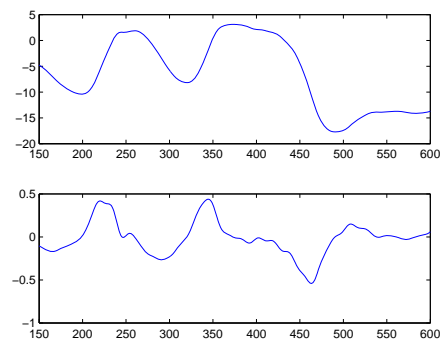
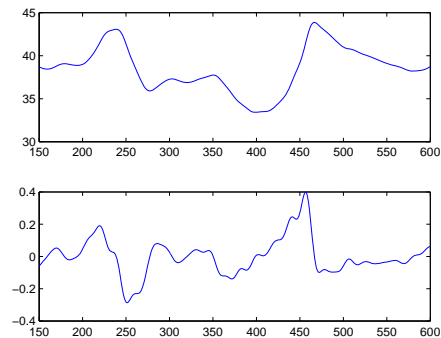

Figure 7: Vertical movement (upper panel) and vertical velocity (lower panel) of TBPOS.
Figure 8: Horizontal movement (upper panel) and horizontal velocity (lower panel) of TBPOS.
The first determines the number of rows of the output figure and the second the number of columns, such that a 2×1 plot is produced. The last number in `subplot` specifies the position of the plot. The plots are specified after the comma. For both the signal `s` and the velocity `vel`, the y-signal, i.e. the vertical spatial signal and the vertical velocity, is index by 2 for the range between 150 and 600. Thus both vertical signals correspond to the same range in the same trajectory (i.e., TBPOS). In the first argument of both plots, the sample range is specified. The output is shown in Figure 7. By default, MATLAB aligns the x-axis starting with 0 (try out, and remove the first argument of the `plot` functions). The upper panel of Figure 7 shows the vertical movement of TBPOS. The vertical velocity shown in the lower panel corresponds to the vertical movement. At approximately 380 samples a positive peak in the positional signal (upper panel) is surrounded by a two extrema in the velocity signal (lower panel) with one positive extremum and the other negative and in between the two extrema the velocity cross zero. You can close the open figure by typing `close all` in you MATLAB console.
The same code as for the vertical signals in Figure 7 can be applied to the horizontal signal by changing the column index to 1 which corresponds to the x-values as shown
below. Note, the range of the signal is still the same, such as the trajectory. Now, the signal corresponds to the movement in the horizontal dimension. Figure 8 shows the output plot. Again, the upper panel shows the spatial movement in the horizontal dimension, and the lower panel shows the corresponding velocity.
Exercise 8: Create the similar plots like in Figure 7 and in Figure 8 for TBPOS in the sample range from 550 to 650. Observe the sensitivity to local extrema under the variation of the sample range. Vary the sample between (e.g., 200 to 700, 300 to 500, 400 to 450). You will have to change to index of the signal **s** assignment and the range values. Hint: You can save yourself some work, by creating a vector, say **range**, that contains the sample slice of interest.
In Figure 7 and Figure 8, we are still in the realm of spatial movement and velocities in sample coordinates for the x-axis. In the code below, the velocity values will be converted to cm/sec similar to the conversion shown in Section 3.3. The tangential velocity is computed as shown in equation (2) in Section 3.3 and assigned to **t**. All three velocities are multiplied by its sampling rate as in equation (1'') in Section 3.1 and divided by 10 for cm/sec. The sampling rate of the respective trajectory TBPOS was assigned to **sRate**.